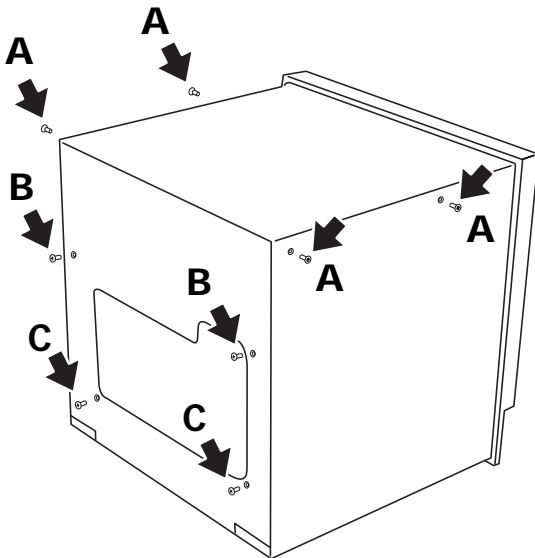

Figure 10.1a Remove cover fixings
2. Release the combined top/rear cover by removing the four countersunk screws marked ‘A’ in figure 10.1a, and the pan-head screws (‘B’ and ‘C’). All these fixings should be retained for use in re-assembly. For current instruments, screws ‘A’ are T8 Torx headed screws. Previous versions used cross-head screws. For previous versions, items ‘C’ were two-part plastic rivets.